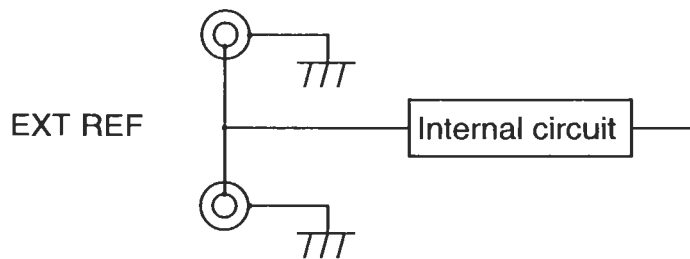

Figure 3.6 Loop-through input
The EXT REF connectors ③② are of loop-through configuration. Loop-through connectors are connected as shown in Figure 3.6.